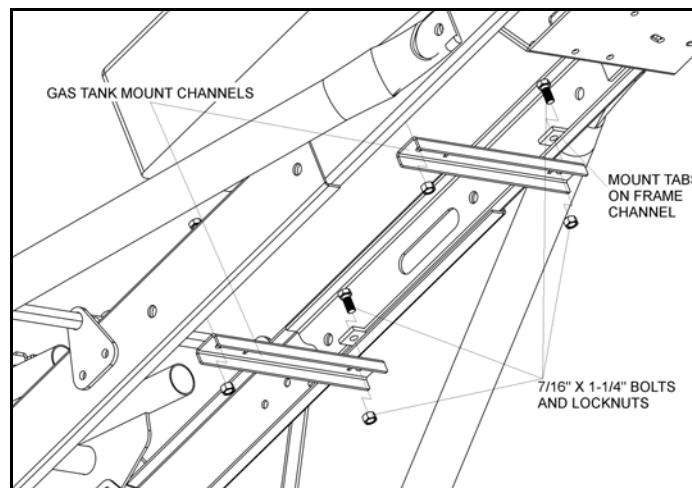

Figure 3.52 Gas Tank Mount
- Install gas tank mount channels with 7/16" x 1-1/4" bolts and locknuts as shown in Figure 3.52. Each bolt should first pass through a gas tank mount tab (located on the inside of the frame channel) then the gas tank mount.